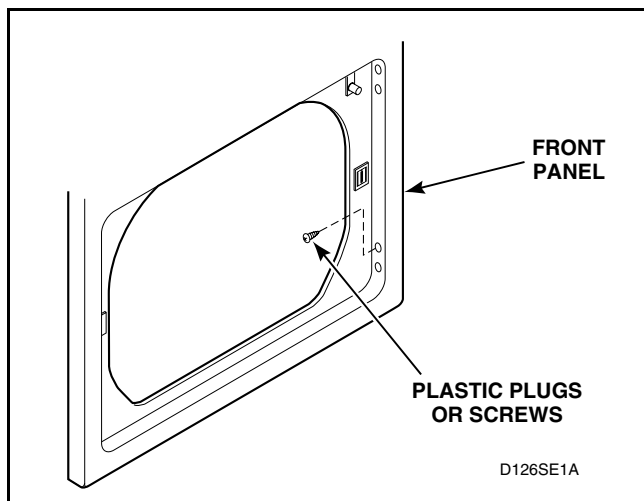

Figure 26
- Remove plastic plugs (or screws) from left side of the door opening of the dryer front panel and place them into holes on right side. Refer to *Figure 26*.